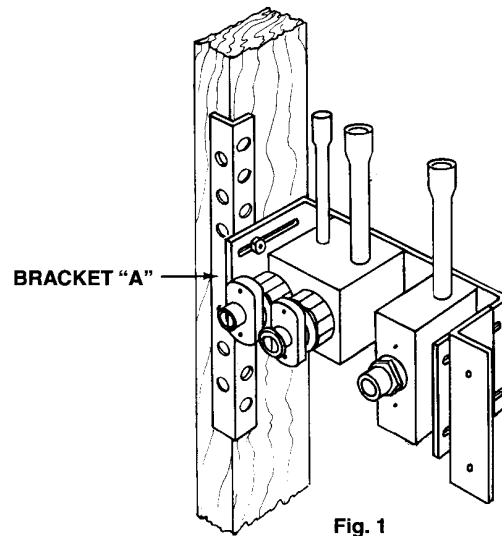

Fig. 1
1. **LOCATION:** Select appropriate location for mounting station to a stud prior to installing drywall or wall board. Secure bracket "A" to stud. (Fig. 1)